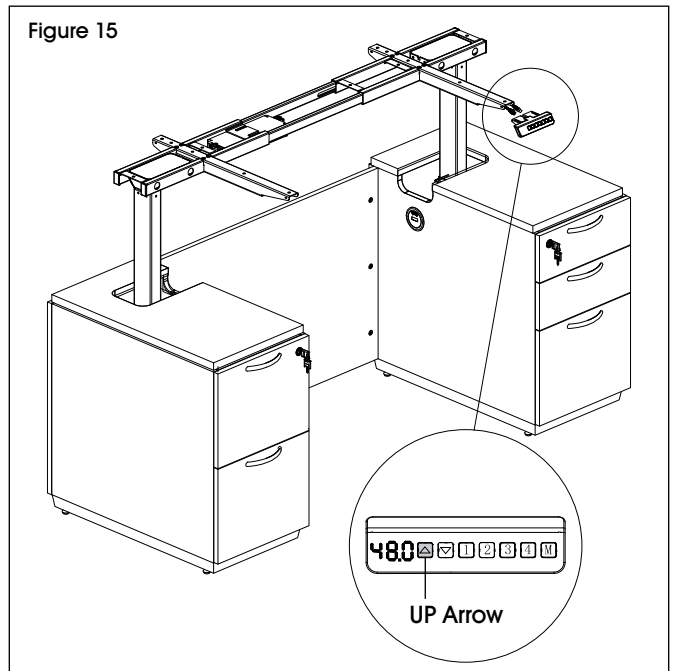

Figure 15
15. Plug in the power cord and press the "up arrow" to raise frame to its tallest height. (See Figure 15)